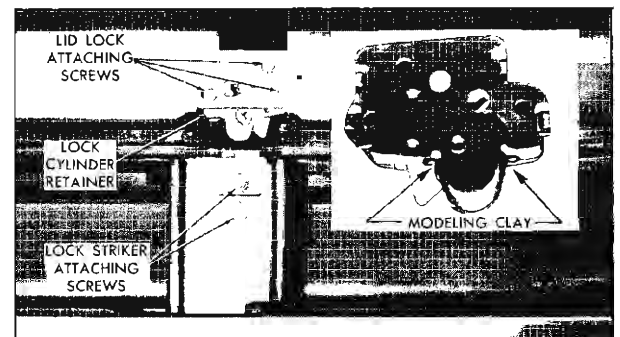

Fig. 14-8 Rear Compartment Lid Lock and Striker
2. Remove lid lock cylinder retainer attaching screws which are located between lid hemming flange and lid lock (Fig. 14-8).
2. Remove rear compartment lock attaching screws (Fig. 14-8) and remove lock.
1. Mark location of striker on compartment lid panel; then, remove striker attaching bolts and remove striker and retaining plate (Fig. 14-8).
1. Place a small amount of modeling clay or body caulking compound on frame of lock at both sides of the lock bolt (Fig. 14-8). Close lid with moderate force.
2. Open lid and check amount of engagement of striker with lock frame, as indicated by the compression of the clay. The striker impression in the clay should be even on both sides of the lock frame (Fig. 14-8). Where required, loosen striker attaching screws: adjust striker sideways or up or down to obtain proper engagement, then tighten screws.